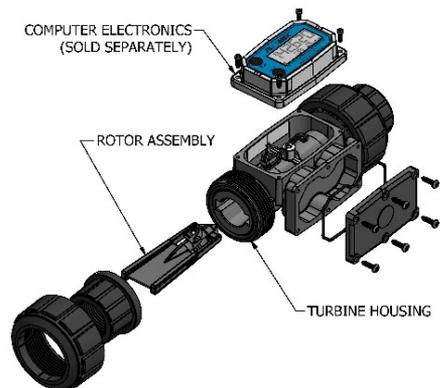

Figure 3
1. Remove the turbine from the system. (See Figure 3)
- Install the rotor assembly into the turbine housing. Make sure the pointed end of the rotor assembly is inserted first (see Figure 3). Guide the assembly into place using a smooth motion, little or no force is required.